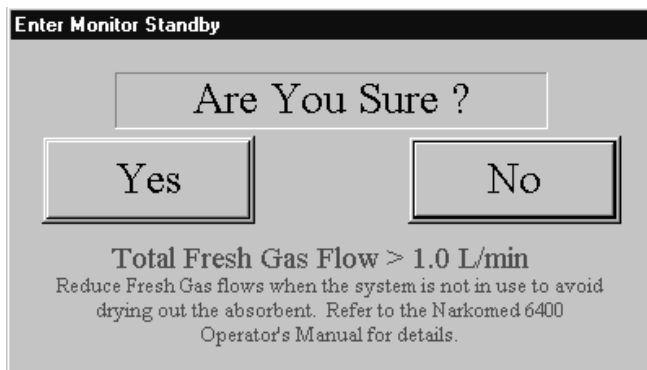

Figure 8-2. Monitor Standby Confirmation Dialog Box - Fresh Gas Flow > 1 L/min
- If the total fresh gas flow is greater than one liter per minute, the confirmation dialog box shown in Figure 8-2 is displayed. Reducing the fresh gas flow to below one liter per minute will remove the warning text from the dialog box.